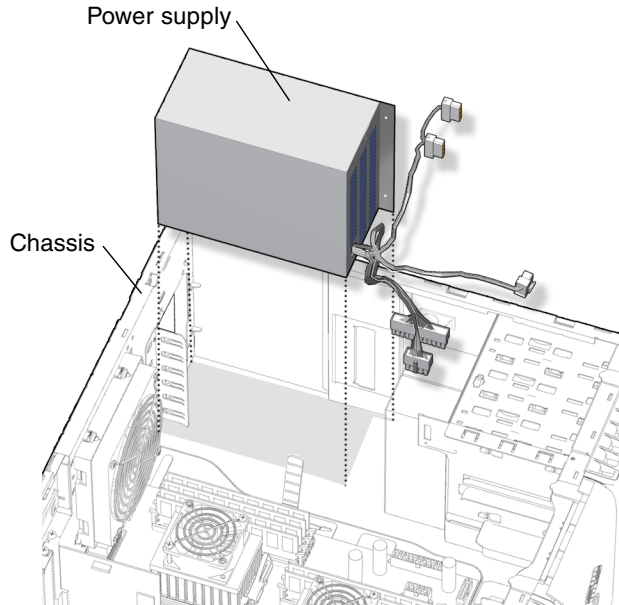

FIGURE 13-6 Removing the Power Supply from the Chassis
11. Remove the power supply from the chassis (FIGURE 13-6).